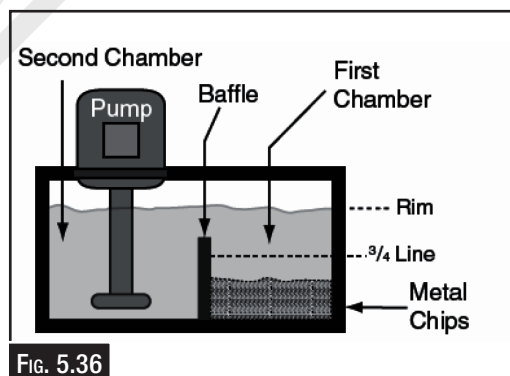

FIG. 5.36
4. Using a wooden stick, check the level of the metal chips in the first chamber (Fig. 5.36). If the chips are $\frac{3}{4}$ the height of the baffle, then remove the chips.